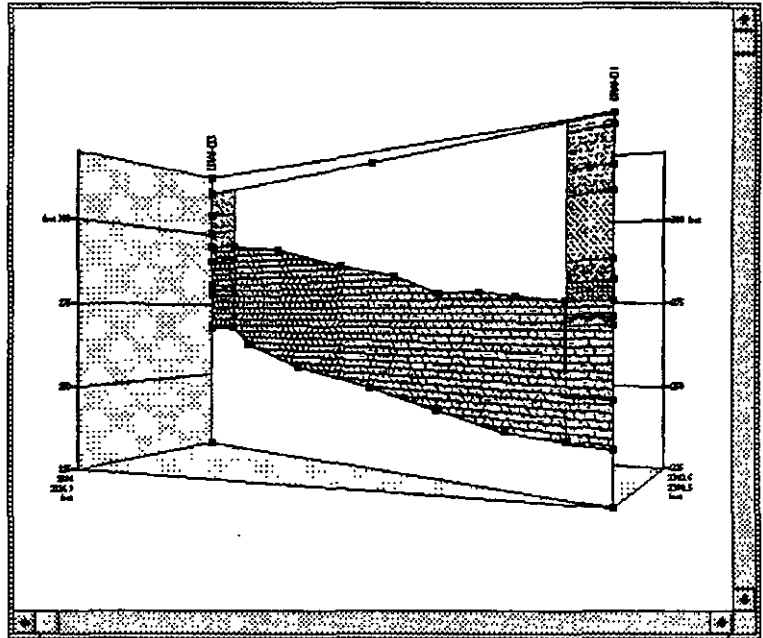

Figure 17-16
17.2.6. Clear Panels This command is used to remove additional "enhancements" to a panel. For example, you may add lines either hand drawn or from the Mapping application. Also you may fill in a layer with a lithologic pattern. A panel may look as shown in Figure 17-16. Using the command Clear